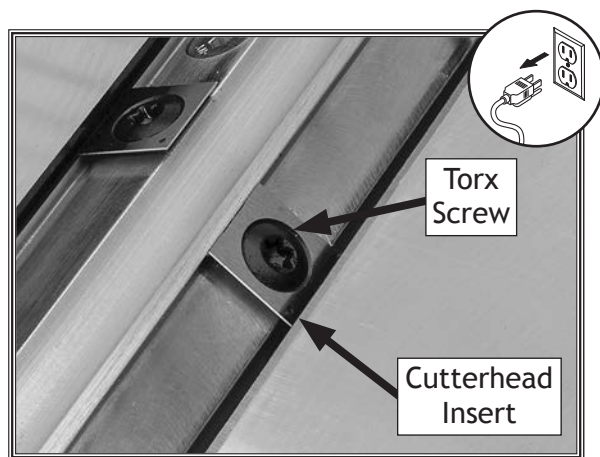

Figure 28. Cutterhead insert and Torx screw.
5. Remove Torx screw and insert (see **Figure 28**), then carefully clean away all dust and debris from insert and insert surface on cutterhead.